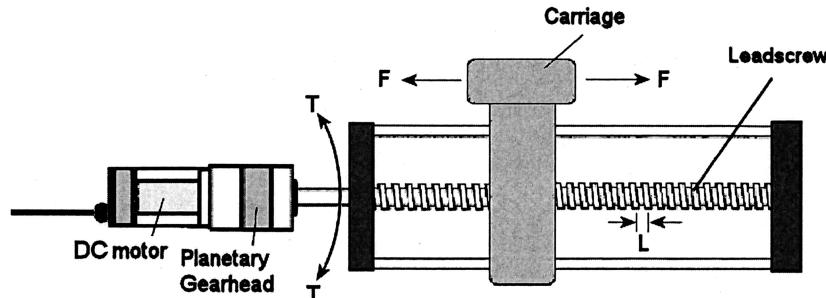

Figure 2
- 3 (b) A DC motor drives a carriage through a leadscrew and a planetary gearhead. This is shown in Figure 2.